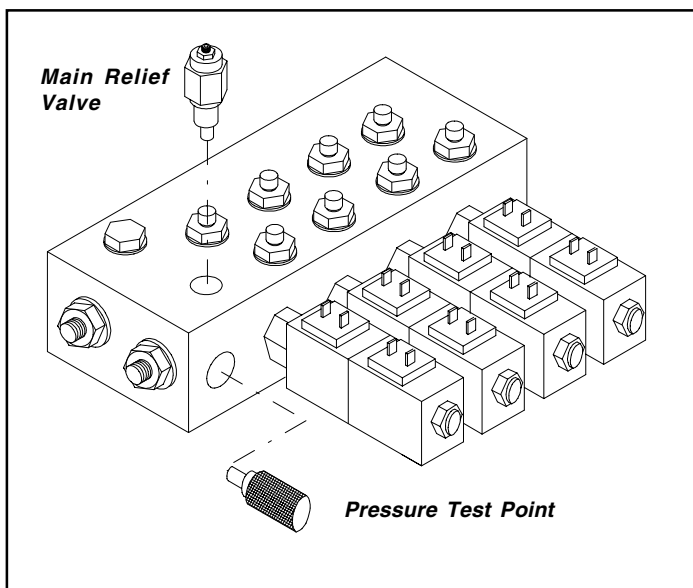

Figure 4-3: Main Manifold Block
4.5 Setting Hydraulic Pressures (Figure 4-3)